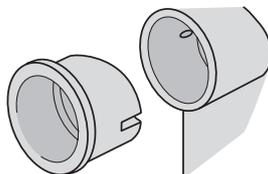

Fig.31e Blanking plug
Step 5 – (If only one waste socket connection required) Solvent-weld blanking plug into disused socket (Fig.31e)